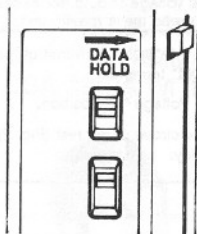

Fig. 4
- (1) Simply press the Data Hold Switch. This allows easy readings in dimly lit or crowded cable areas (Fig. 4). Press again to resume readings.